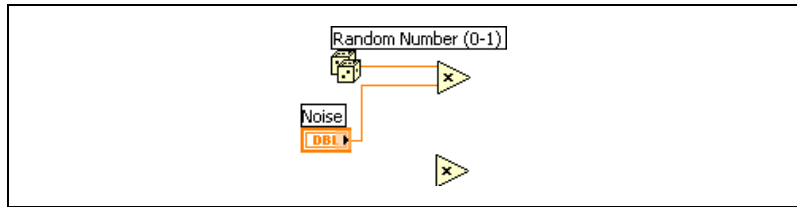

Figure 9. Generating the Noise Component of the Signal
4. Wire the **Noise** numeric control to the **y** input of the same Multiply function you used in step 3 to multiply the noise value by a random number as shown in Figure 9.